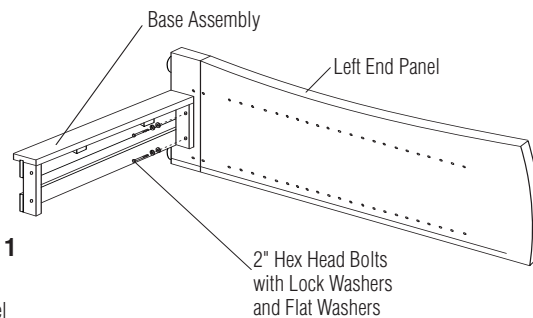

Figure 1
2. Align the side holes in the base assembly with the lower holes in the left end panel. Insert 2" hex head bolts with lock washers and flat washers into the base and end panel (Figure 1).